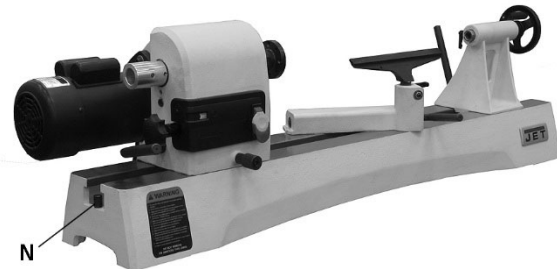

Figure 3
1. Unscrew the stud (N, Figure 3) from each end of the bed.
1. Unscrew the stud (N, Figure 3) from each end of bed.
9. Install headstock, tool support and tailstock, and both studs (N, Figure 3).
To remove headstock, tailstock or toolrest base from bed, unscrew and remove either of the studs (see N, Figure 3). After remounting these items on the lathe, reinstall studs.